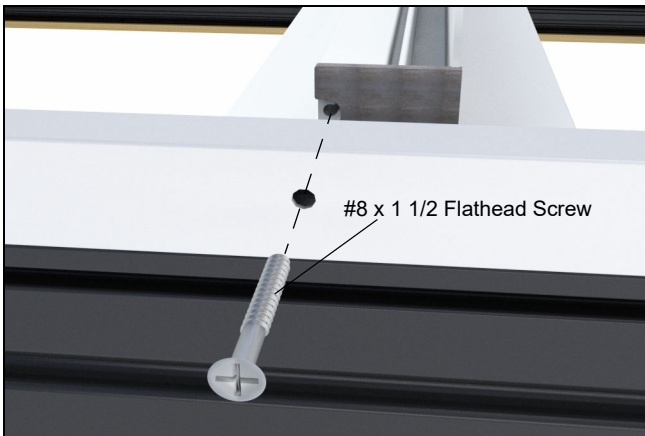

Figure 80
10. Ensure hole is lined up with screw boss in pocketing interlock. See figure 80.